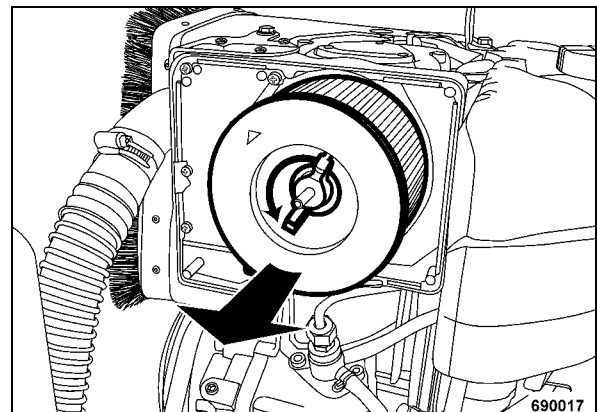

Fig. 45
- Unscrew the wing nut and pull the air filter out (Fig. 45).